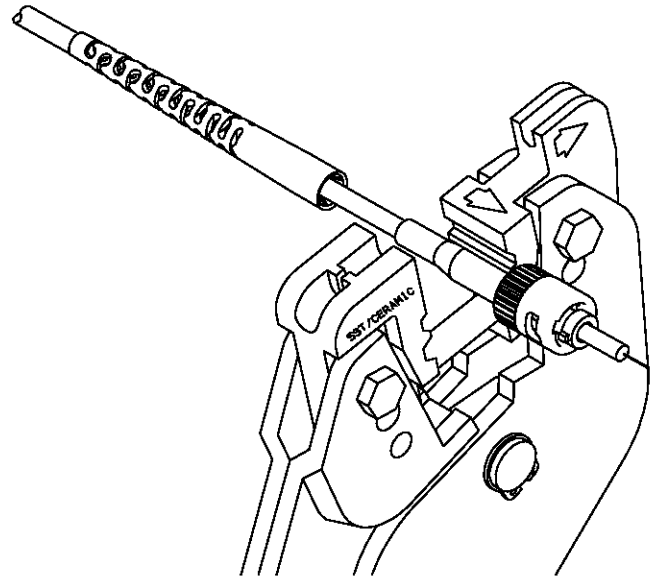

Figure 10
3. Using Crimping Tool 503568-1, place the larger crimp cavity around the crimp sleeve larger diameter, closest to the connector body. See Figure 10.